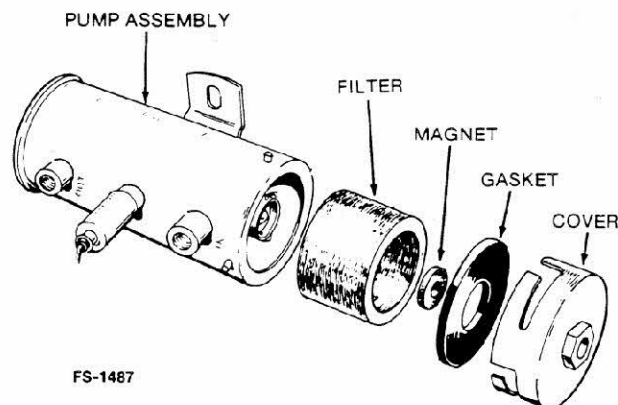

FIGURE 9. REMOVAL OF MAGNET AND FILTER
2. Remove the filter, magnet and cover gasket (Figure 9).